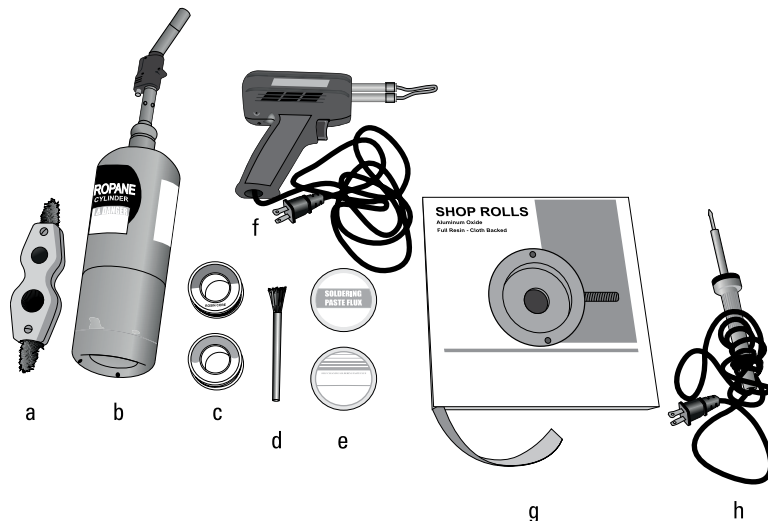

FIGURE 13-7:
- » **You must use the correct solder.** When you're buying solder (at the hardware or home improvement store), read the labels carefully to make sure you're getting a solder that will properly join the metals you intend to solder. Most solders are alloys of lead and tin and come in small rolls. The most common general-purpose solder is 50/50, which indicates that the solder is made of 50 percent lead and 50 percent tin. 50/50 solder melts at 470 degrees Fahrenheit. A range of solder is available for soldering different materials. You can see an example of solder in Figure 13-7.
» **You must use the correct flux.** Rust and other impurities form on the surfaces of metals when they're exposed to air. Flux removes these oxides during the soldering process, which helps to improve the quality of your soldered joints, and also allows the solder to adhere and flow more freely. Fluxes come in liquid, paste, and powder form. You can buy corrosive or noncorrosive flux. The former is more effective, but you have to wipe it away with flux remover (available where you buy your soldering supplies) after soldering. Check out Figure 13-7 to see some of the materials you may need for soldering, including a copper pipe wire brush cleaning tool for soft soldering (a), a propane soldering torch (b), rosin core and lead-free solder (c), a flux brush (d), soldering paste flux (e), electric soldering gun (f), shop rolls for sanding (g), and an electric pencil soldering iron (h).